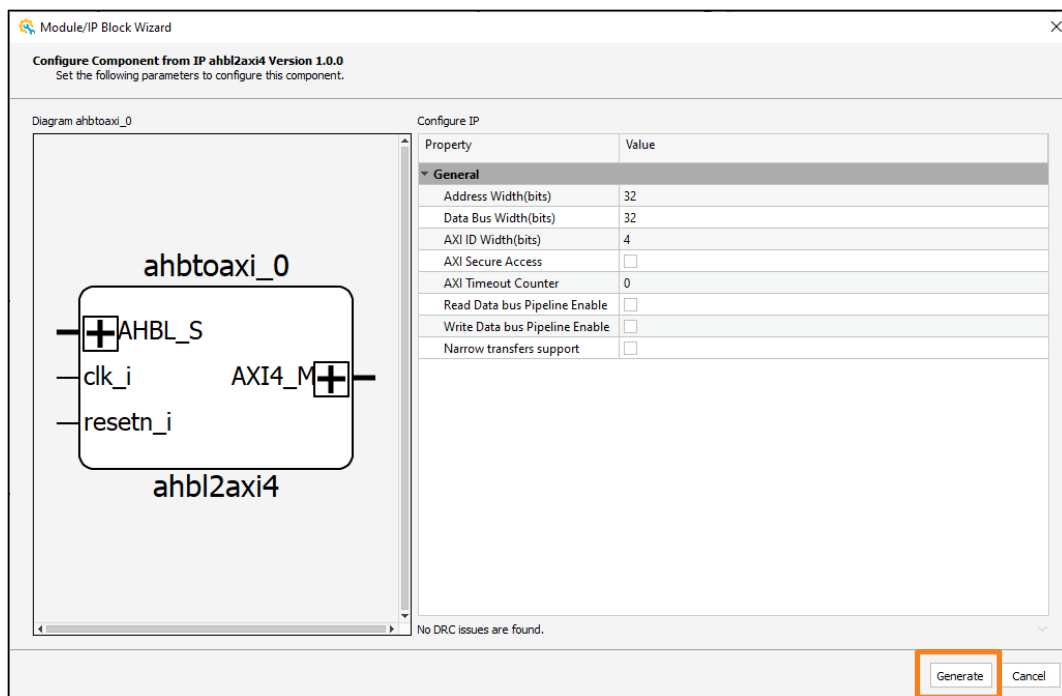

Figure 4.2. IP Configuration
3. In the next Module/IP Block Wizard window, customize the IP according to your required configuration. Figure 4.2 shows an example configuration. For more details on the configuration options, please refer to Section 2.3.